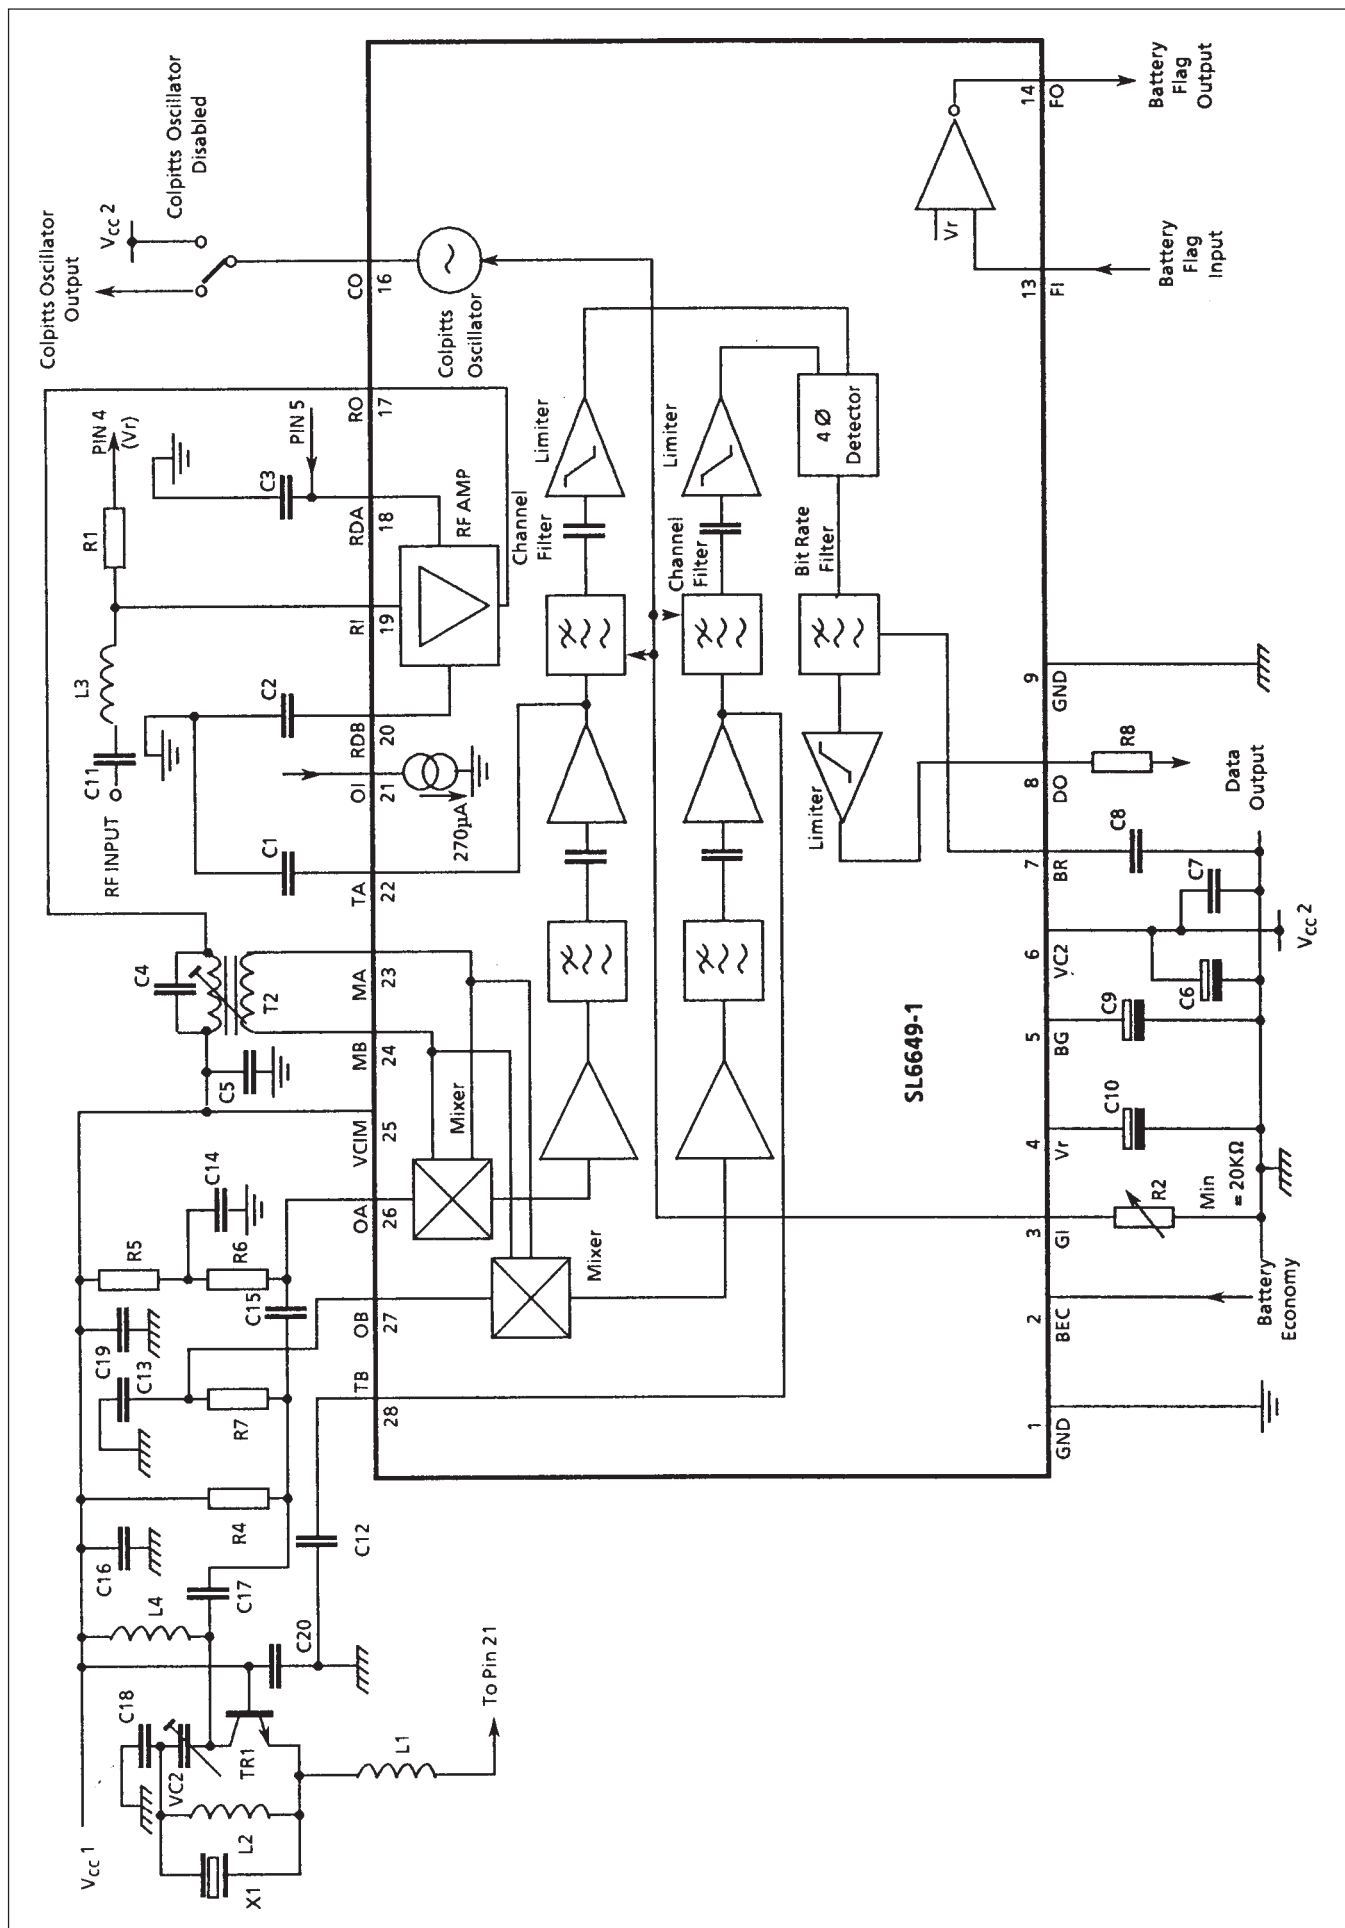

Figure 6: Block Diagram and Applications Circuit (for component values see next page)
**Measurement conditions (unless otherwise stated):** Applications circuit diagram Fig.6;  $V_{CC1} = 1.3\text{V}$ ;  $V_{CC2} = 2.3\text{V}$ ;  $T_{amb} = 25^{\circ}\text{C}$ ; Colpitts oscillator resistor = 270kΩ; mixer input A and B phase balance =  $180^{\circ}$ ; local oscillator input A and B phase balance =  $90^{\circ}$ . Measurement methods as described by CEPT Res 2 specification.  $F_{IN} = 153\text{MHz}$  (512 baud).
COMPONENTS LIST FOR FIGURE 6